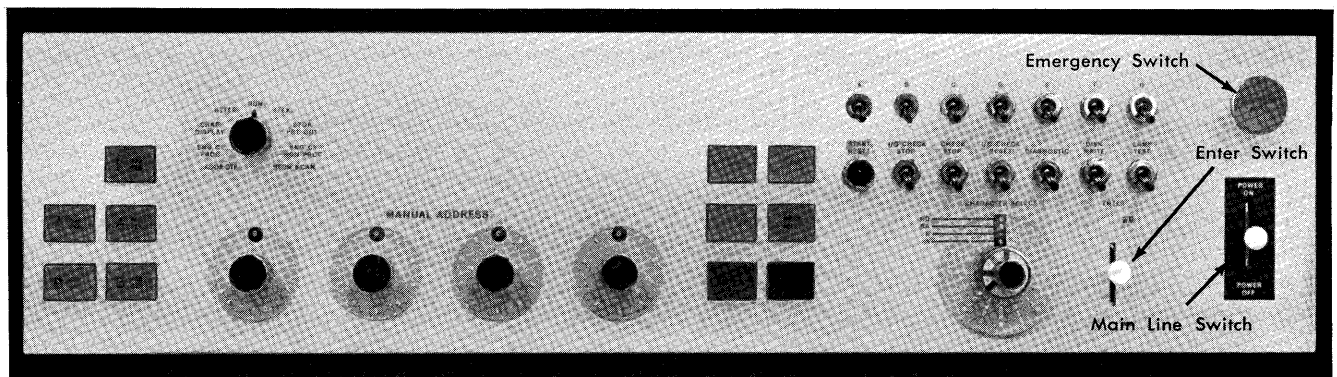

Figure 9. IBM 1447 Console Controls
After all the units have been inspected and set up, the operator can return to the console (Figure 9) and turn the power on.
1. Console Operation (Figure 9):